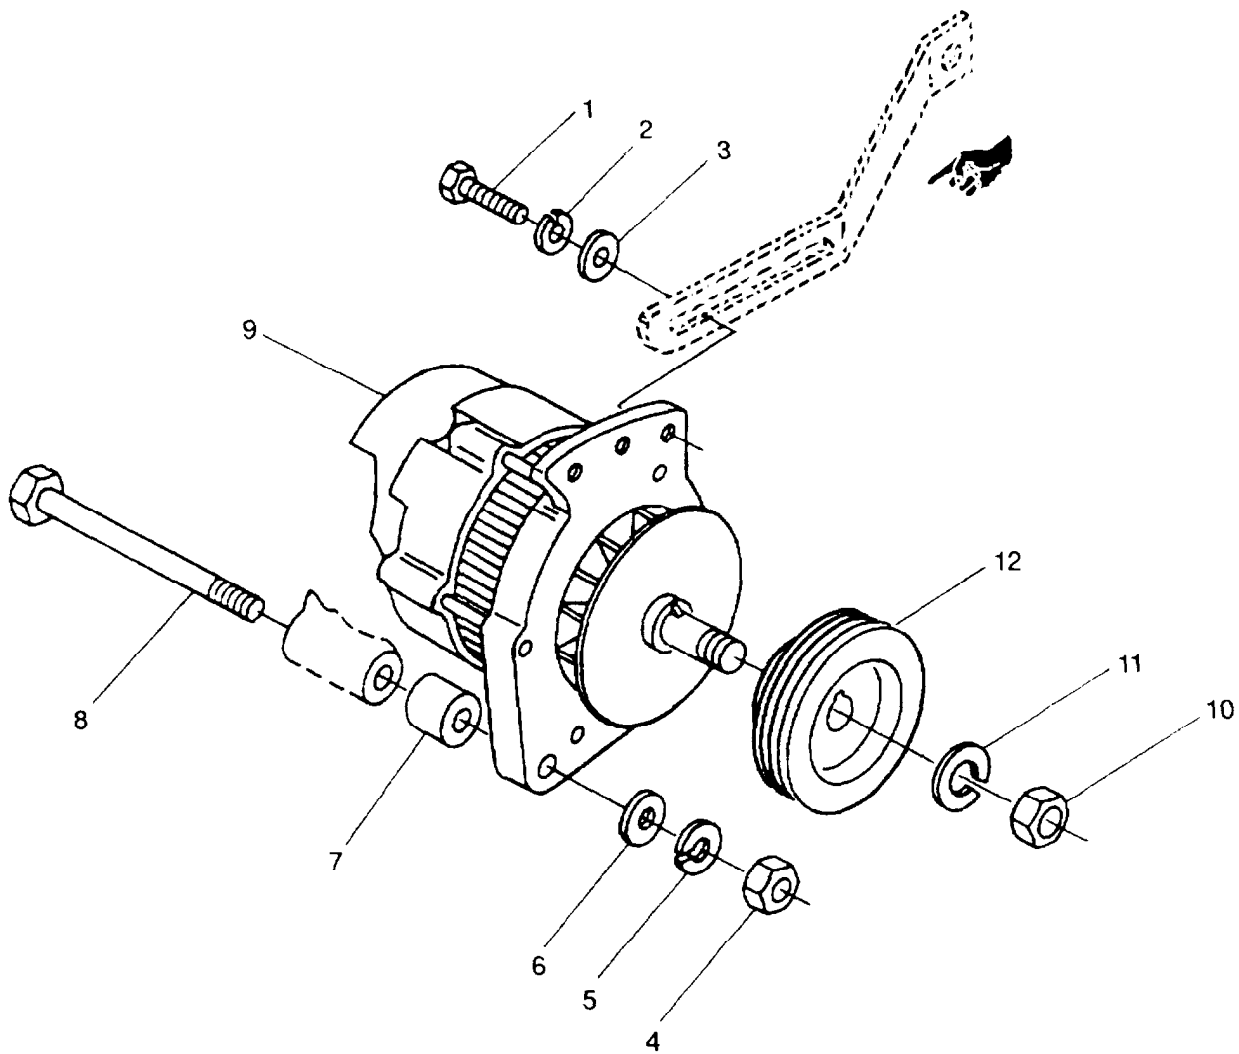

Figure 2-5. Battery Charging Alternation
- b. Inspect battery charging alternator (9, Figure 2-5) for loose mounting hardware, damaged or loose electrical connections, and other damage.
- b. Inspect battery charging alternator (9, Figure 2-5) for loose connections.
- d. Remove bolts (2), washers (3), and right fan guard (4).
- e. Loosen bolt (1, Figure 2-5) nut (4) and move battery charging alternator (9) so fan belt (33, Figure 2-20) can slip off battery charging alternator pulley and can be removed from crankshaft and water pump pulleys.
- f. Tag and disconnect alternator (9, Figure 2-5) electrical leads.
- g. Remove bolt (1) lockwasher (2), and washer (3).
- h. Remove nut (4), lockwasher (5), washer (6), spacer (7). and bolt (8).
- i. Remove battery charging alternator (9) from generator set.
- j. If replacing alternator, remove and retain nut (10), lockwasher (11), and pulley (12) from alternator (9).
- a. If removed, install pulley (12, Figure 2-5) on battery charging alternator (9) with lockwasher (11) and nut (10). Torque nut (10) 40 to 50 ft-lbs (54 to 68 Nm).
- b. Position battery charging alternator (9) in generator set.
- c. Install bolt (8) spacer (7), washer (6), lockwasher (5), and nut (4).
- e. Install bolt (1, Figure 2-5), lockwasher (2), and washer (3).